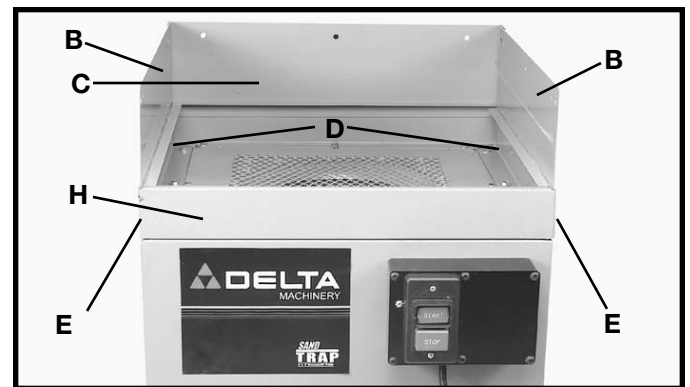

Fig. 9
1. Attach the back middle board (C) Fig. 2, to the motor case. Align the holes in the back middle board (C) Fig. 9, with the holes in the motor case. Insert a 1/4-20x5/8" flange screw through the hole in the back middle board and thread into the motor case. Repeat this process for the two remaining holes.
2. Attach the back middle board (C) Fig. 9, to the side middle boards. Align the holes (D) in the back middle board (C) Fig. 9, with the holes in the side middle boards (B). Insert a 1/4-20x5/8" flange screw through the hole in the back middle board and side middle board, thread a 1/4-20 flange nut onto the flange screw and tighten securely. Repeat this process for the remaining hole.
1. Attach the bottom middle board (H) Fig. 2, to the front of the motor case. Align the holes in the bottom middle board (H) Fig. 9, with the holes in the motor case. Insert a 1/4-20x5/8" flange screw through the hole in the bottom middle board and thread into the motor case. Repeat this process for the two remaining holes.
2. Attach the bottom middle board (H) Fig. 9, to the side middle boards. Align the holes (E) in the bottom middle board (H) Fig. 9, with the holes in the side middle boards (B). Insert a 1/4-20x5/8" flange screw through the hole in the back middle board and side middle board, thread a 1/4-20 flange nut onto the flange screw and tighten securely. Repeat this process for the remaining hole.